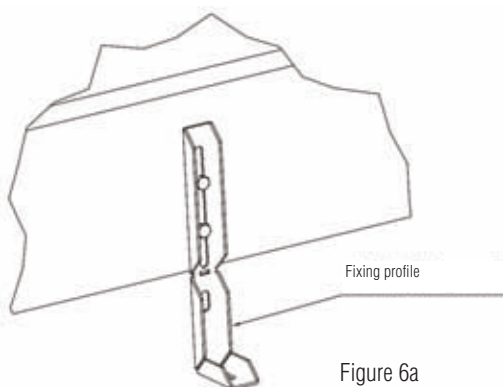

Figure 6a
- When the optimal convector position is achieved, it needs to be fixed with a screw through a fixing profile into the floor. (Figure 6a)